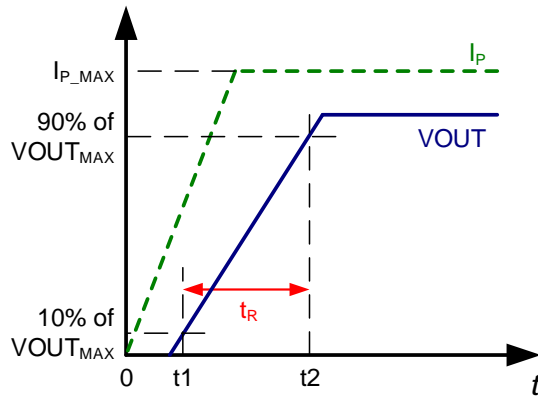

Figure 7: Rise Time (t_R)
- t_2 : The sensor's V_{OUT} reaches 90% of its full scale value (see Figure 7).